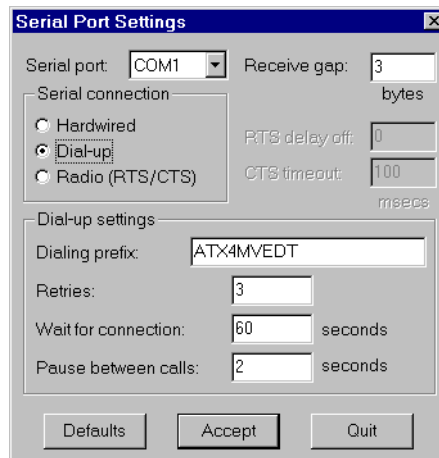

Figure 6-1. Serial Port Settings Dialog Box
1. From the Lookout menu bar, select **Options»Serial Ports...** The **Serial Port Settings** dialog box (Figure 6-1) appears.